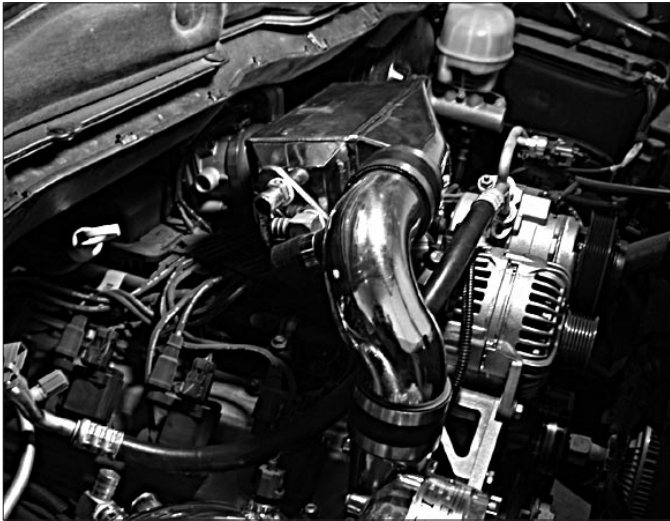

Fig. 10-a
- D.** Install the short end of the supplied 1" 90° elbow hose onto the bung on the 180° air inlet duct. Attach a 6" section of 1" hose onto the bung on the supercharger discharge duct. Install the supplied bypass valve into the hose lines per Fig. 10-c.